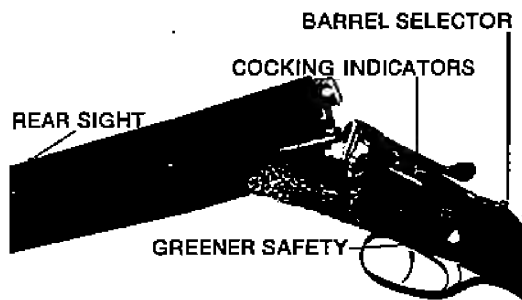

FIGURE 6—ACTION OPEN
4. See Figure 6. Turn the opening lever fully to the right and pivot the barrels into the closed action position. The action should close smoothly and the opening lever should then be returned to its central position on the top of the action.